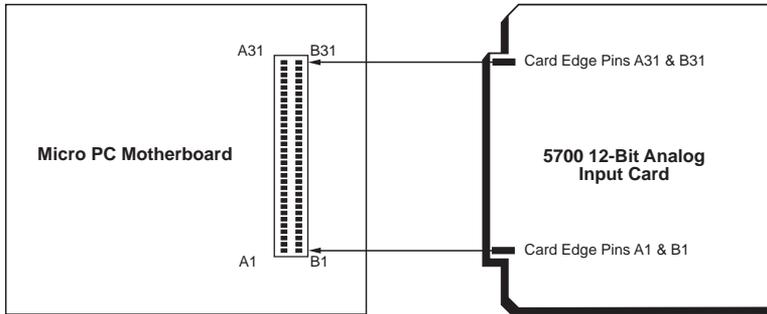

Figure 2-3—Card Edge Orientation
Take care to correctly position the 5700 in the card cage. The  $V_{cc}$  and ground signals must match those on the backplane. Figure 2-3 shows the relative positions of the 5700 as it is installed in the card cage.
6. Slide the 5700 into the card cage (you can use any slot in the card cage). The components on the card should face to the left. The lettering on the card (Octagon Systems Corp.) should be on the top edge of the card and the gold contact fingers toward the backplane (see Figure 2-3).